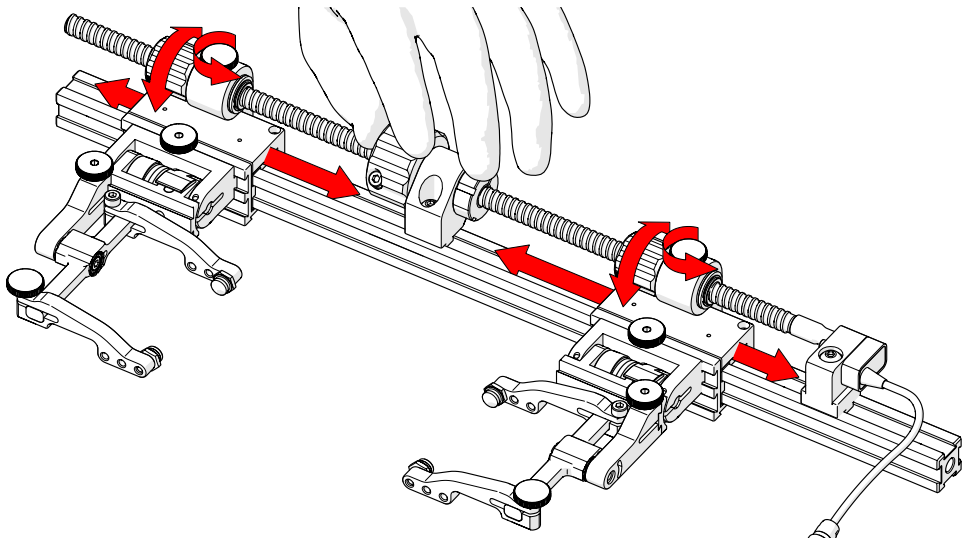

Fig. 172 - Individual slider positioning
2. Loosen the knob at the top of the slider. Rotate the small knobs allowing individual placement of the sliders (*Fig. 172*). The main knob must be held firm when rotating the small knobs to achieve the correct movement.